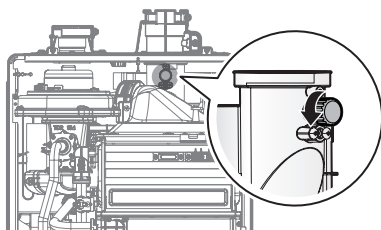

Figure 7
- Open the cover of the emissions monitoring port as shown in Figure 7.